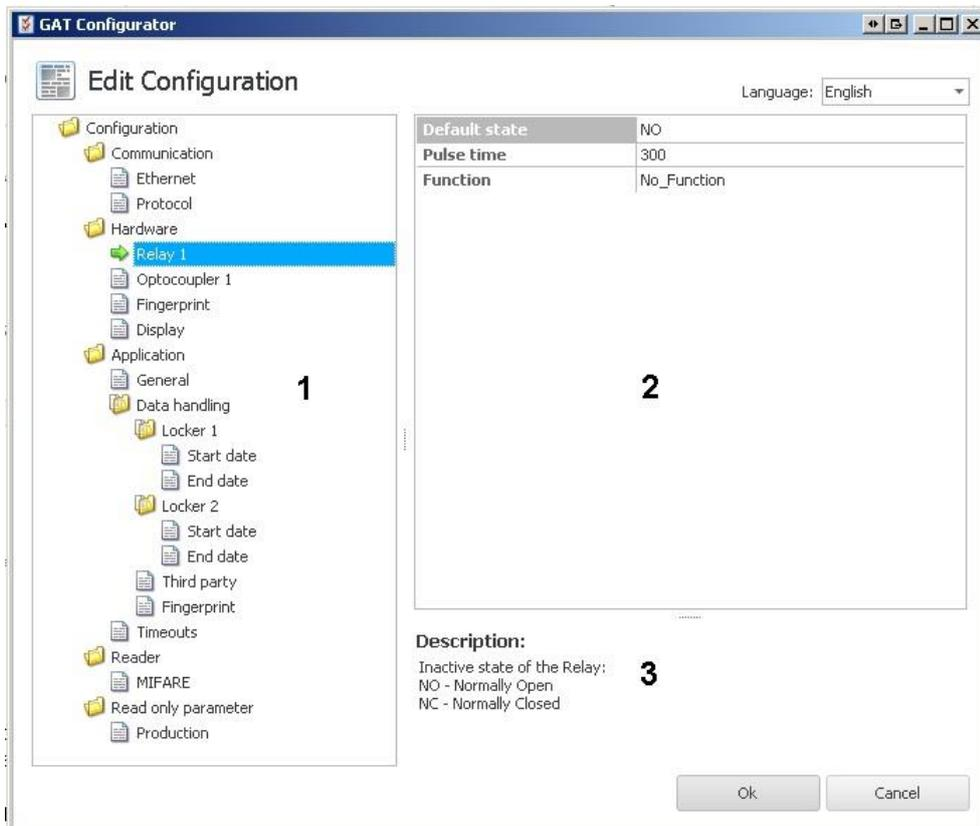

Figure 4.16 - Configuration window for the GAT Access 6100
To view and adjust the configuration settings of the GAT Access 6100 click on the "(2) Configure" button. The existing configuration is uploaded from the GAT Access 6100 and displayed in the configuration window. See Figure 4.16 in the previous section for more information on the configuration window.